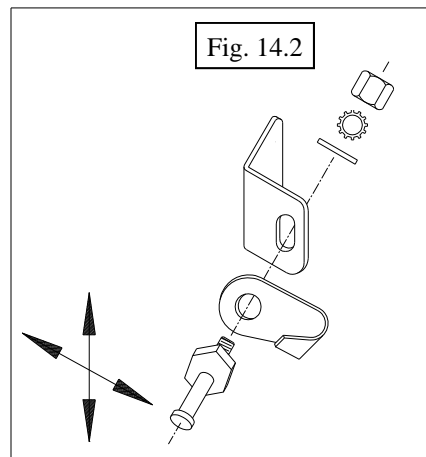

Fig. 14.2
14.2 Per fig. 14.2, the large striker bolt and nut can be loosened and reset higher or lower, in or out for better engagement and door seal. Use two 19mm open end wrenches. Note: finger guard to end up being centered and facing inward.